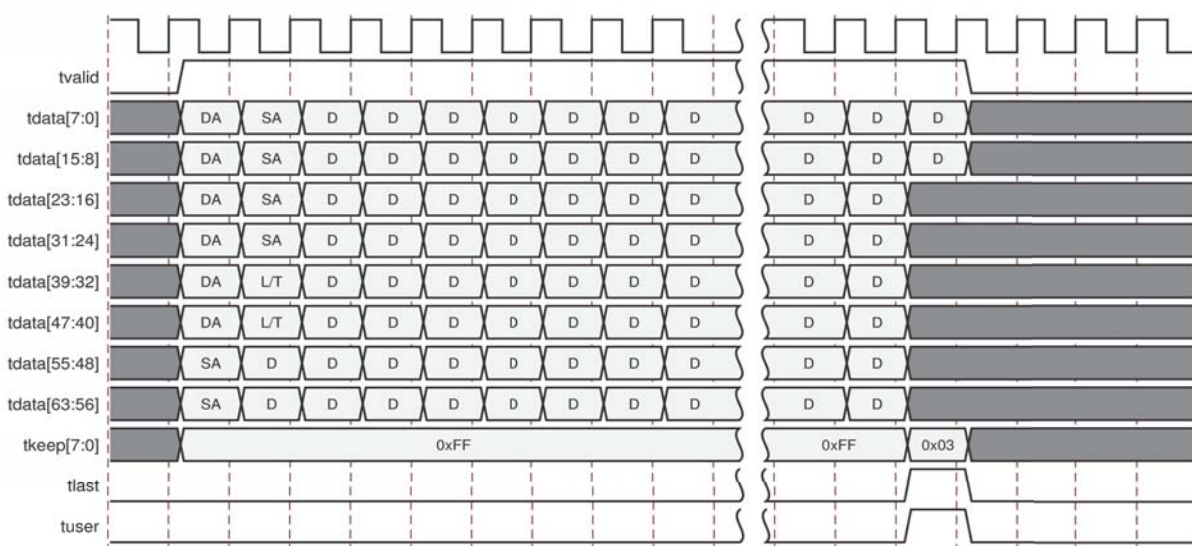

Figure 2-12: Frame Reception with Errors – 64 Bits
- An explicit error in which a frame transfer is aborted by asserting `tx_axis_tuser` High while `tx_axis_tlast` is High (See Figure 2-12).
The case of an unsuccessful frame reception (for example, a runt frame or a frame with an incorrect FCS) is shown in Figure 2-12. In this case, the bad frame is received and the signal `rx_axis_tuser` is asserted to the client at the end of the frame. It is then the responsibility of the client to drop the data already transferred for this frame.